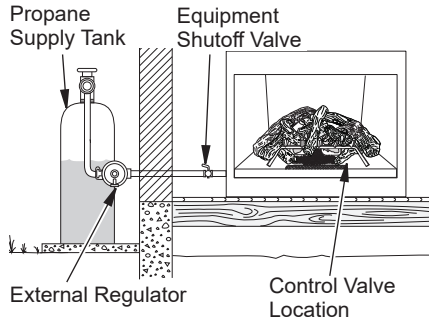

Figure 16 - Checking Gas Joints for Propane Gas
3. Check all joints from gas meter to equipment shutoff valve for natural gas or propane supply to equipment shutoff valve for propane (see Figure 16 or 17). Apply a noncorrosive leak detection fluid to all joints. Bubbles forming show a leak.
4. Check all joints from equipment shutoff valve to control valve (see Figure 16 or 17, page 17). Apply a noncorrosive leak detection fluid to all joints. Bubbles forming show a leak.